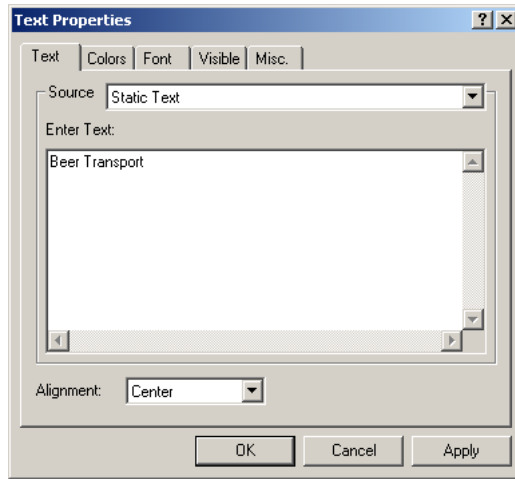

Figure 6.9: The text tab of the text properties dialog box
- ▶ select ‘Center’ from the ‘Alignment’ drop-down list (see Figure 6.9) ,